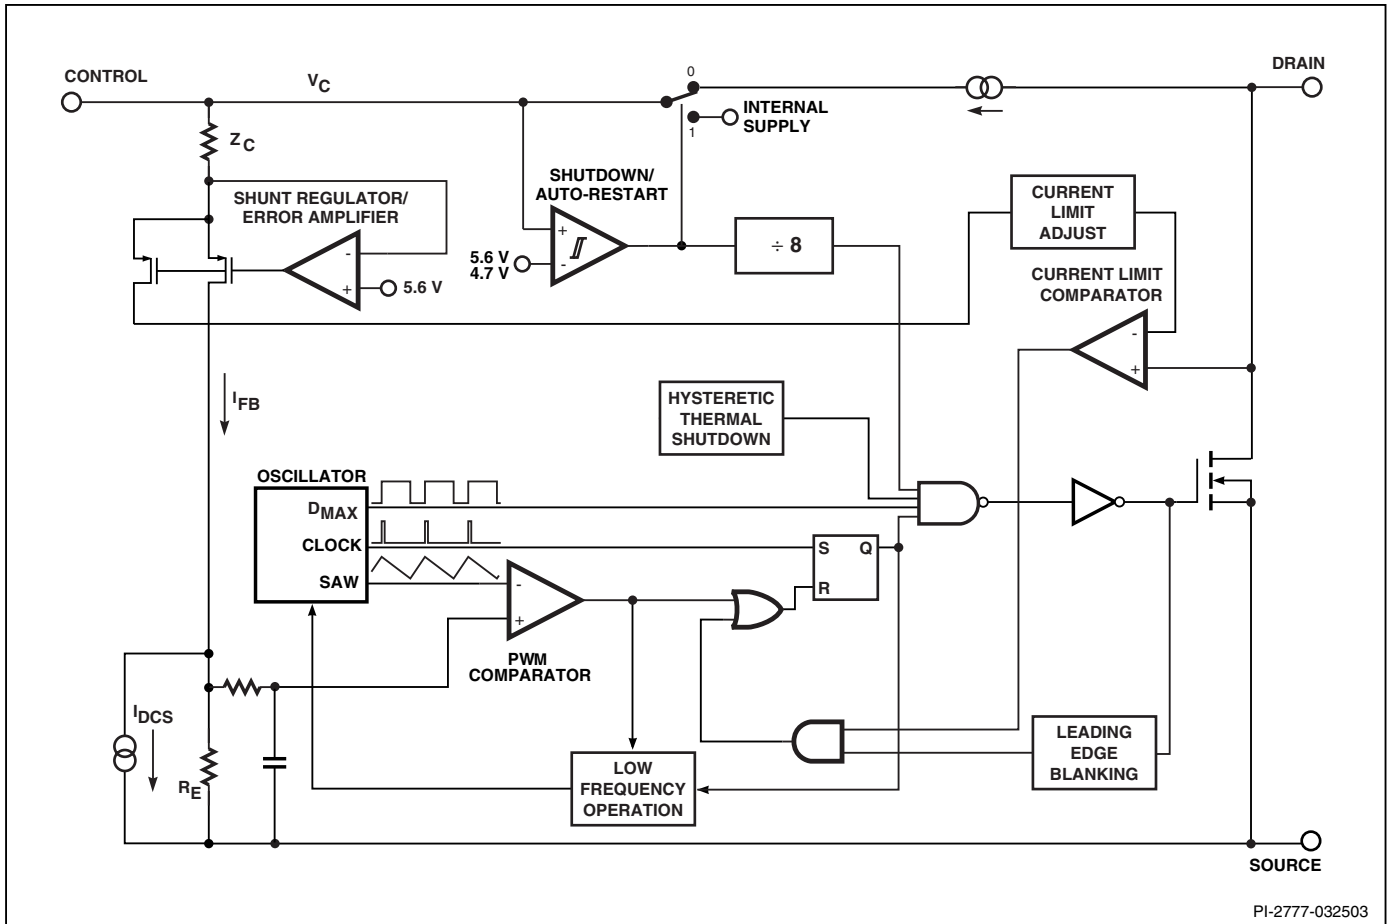
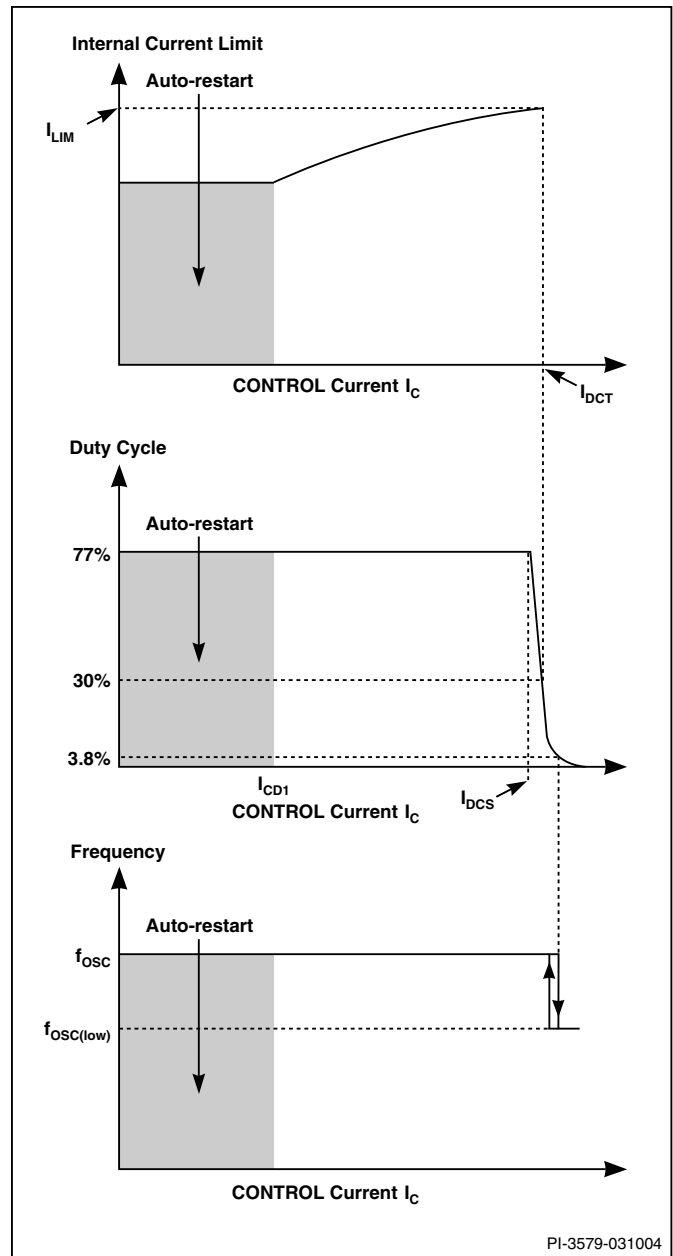
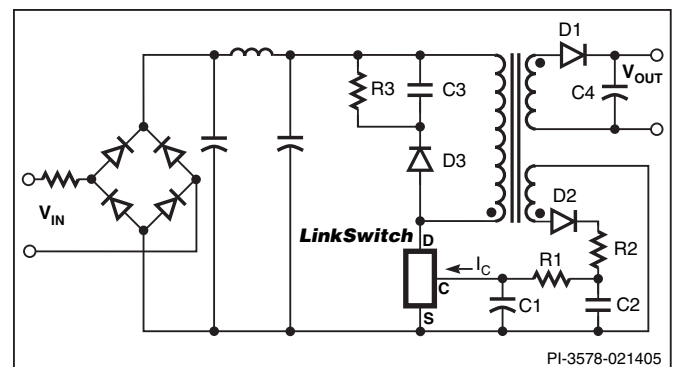
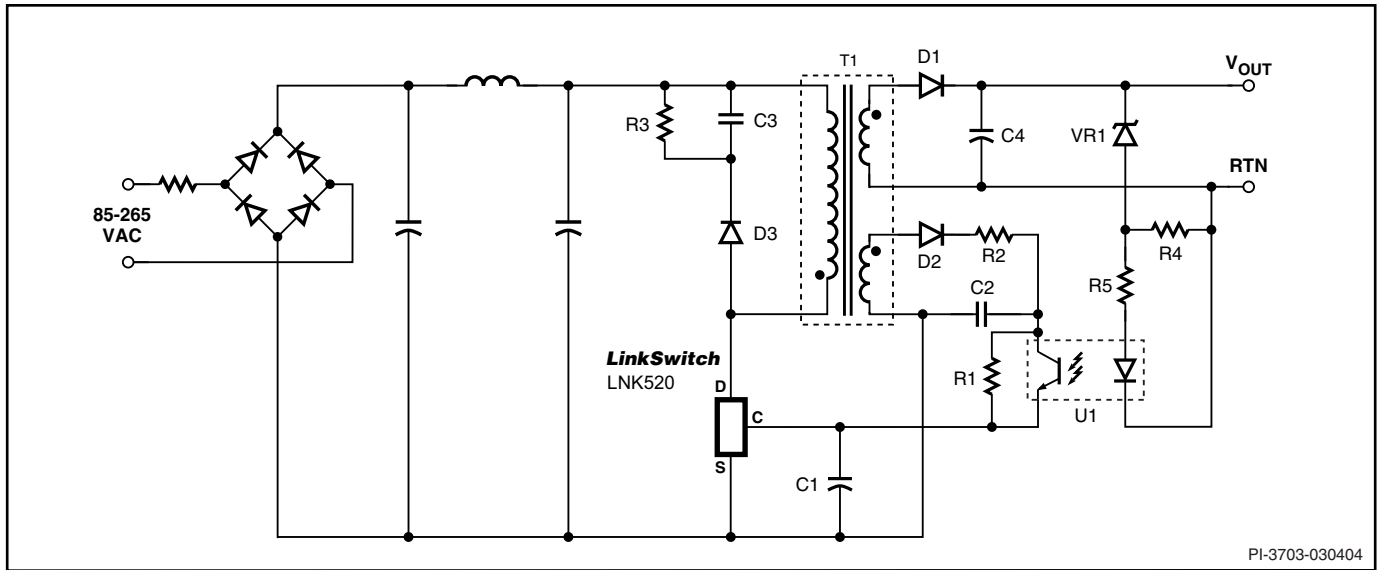

Figure 2. Block Diagram.
Figure 4. CONTROL Characteristics.
Figure 5. Power Supply Schematic outline.
Figure 6. Power Supply Schematic Outline with Optocoupler Feedback, Providing Tight CV Regulation.
The duty cycle, current limit and operating frequency relationships with CONTROL pin current are shown in Figure 4. Figure 5 shows a typical power supply schematic outline which is used below to describe the LinkSwitch operation.
During power up, as V_{IN} is first applied (Figure 5), the CONTROL pin capacitor C1 is charged through a switched high voltage current source connected internally between the DRAIN and CONTROL pins (see Figure 2). When the CONTROL pin voltage reaches approximately 5.6 V relative to the SOURCE pin, the high voltage current source is turned off, the internal control circuitry is activated and the high voltage internal MOSFET starts to switch. At this point, the charge stored on C1 is used to supply the internal consumption of the chip.
As the output voltage, and therefore the reflected voltage across the transformer bias winding ramp up, the feedback CONTROL current I_C flowing through R1 increases. As shown in Figure 4, the internal current limit increases with I_C and reaches I_{LIM} when I_C is equal to I_{DCT} . The internal current limit vs. I_C characteristic is designed to provide an approximately constant power supply output current as the power supply output voltage rises.
When I_C exceeds I_{DCS} , typically 2 mA (Figure 4), the maximum duty cycle is reduced. At a value of I_C that depends on power supply input voltage, the duty cycle control limits LinkSwitch peak current below the internal current limit value. At this point the power supply transitions from CC to CV operation. With minimum input voltage in a typical universal input design, this transition occurs at approximately 30% duty cycle. Resistor R1 (Figure 5) is therefore initially selected to conduct a value of I_C approximately equal to I_{DCT} when V_{OUT} is at the desired value at the minimum power supply input voltage. The final choice of R1 is made when the rest of the circuit design is complete. When the duty cycle drops below approximately 4%, the frequency is reduced, which reduces energy consumption under light load conditions.
Figure 6 shows a typical power supply schematic outline using LinkSwitch with optocoupler feedback to improve output voltage regulation. On the primary side, the schematic only differs from Figure 5 by the addition of optocoupler U1 transistor in parallel to R1.
When the power supply operates in the constant current (CC) region, for example at start up and when charging a battery, the output voltage is below the voltage feedback threshold defined by U1 and VR1 and the optocoupler is fully off. In this region, the circuit behaves exactly as previously described with reference to Figure 5 where the voltage across C2 and therefore the current flowing through R1 increases with increasing output voltage and the LinkSwitch internal current limit is adjusted to provide an approximate CC output characteristic.
When the output reaches the voltage feedback threshold set by U1 and VR1, the optocoupler turns on. Any further increase in the power supply output voltage results in the U1 transistor current increasing. The resulting increase in the LinkSwitch CONTROL current reduces the duty cycle according to Figure 4 and therefore, maintains the output voltage regulation.
At very light or no-load, typically less than 2 mA of output current, the output voltage rises due to leakage inductance peak charging of the secondary. This voltage rise can be reduced with a small preload with little change to no-load power consumption. The output voltage load variation can be improved across the whole load range by adding an optocoupler and secondary reference (Figure 6). The secondary reference is designed to only provide feedback above the normal peak power point voltage to maintain the correct constant current characteristic.